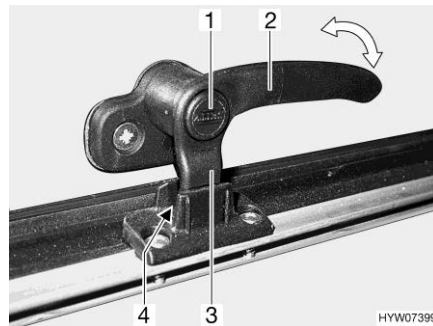
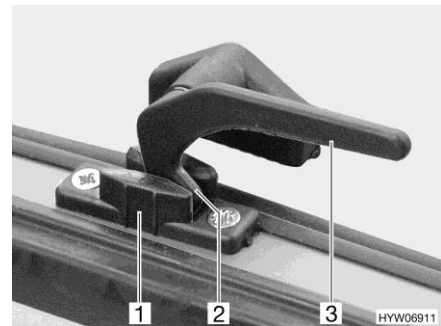

Fig. 121 Catch lever with safety knob in "continuous ventilation" position
Fig. 122 Catch lever in "continuous ventilation" position
- "Continuous ventilation" (Fig. 121 and Fig. 122)
- Press and hold the safety knob (Fig. 121,1), if present.
- Turn all catch levers (Fig. 121,2 or Fig. 122,3) a quarter turn towards the centre of the skylight.
- Return all catch levers to their initial position. The locking catch (Fig. 121,3 or Fig. 122,2) has to be moved into the recess of the skylight lock (Fig. 121,4 or Fig. 122,1).